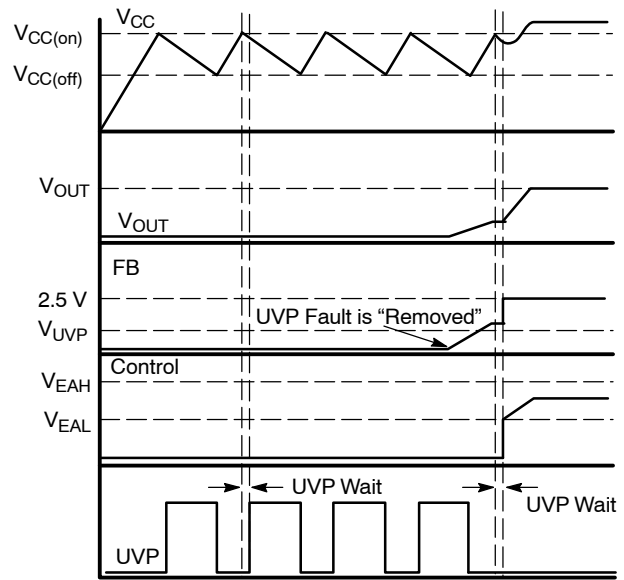

Figure 36. The NCP1607's Startup Sequence with and without a UVP Fault
Furthermore, the NCP1607 incorporates a novel startup sequence which ensures that undervoltage conditions are always detected at startup. It accomplishes this by waiting approximately 180  $\mu$ s after  $V_{CC}$  reaches  $V_{CC(on)}$  before enabling the error amplifier (Figure 36). During this wait time, it looks to see if the feedback (FB) voltage is greater than the UVP threshold. If not, then the controller enters a UVP fault and leaves the error amplifier disabled.